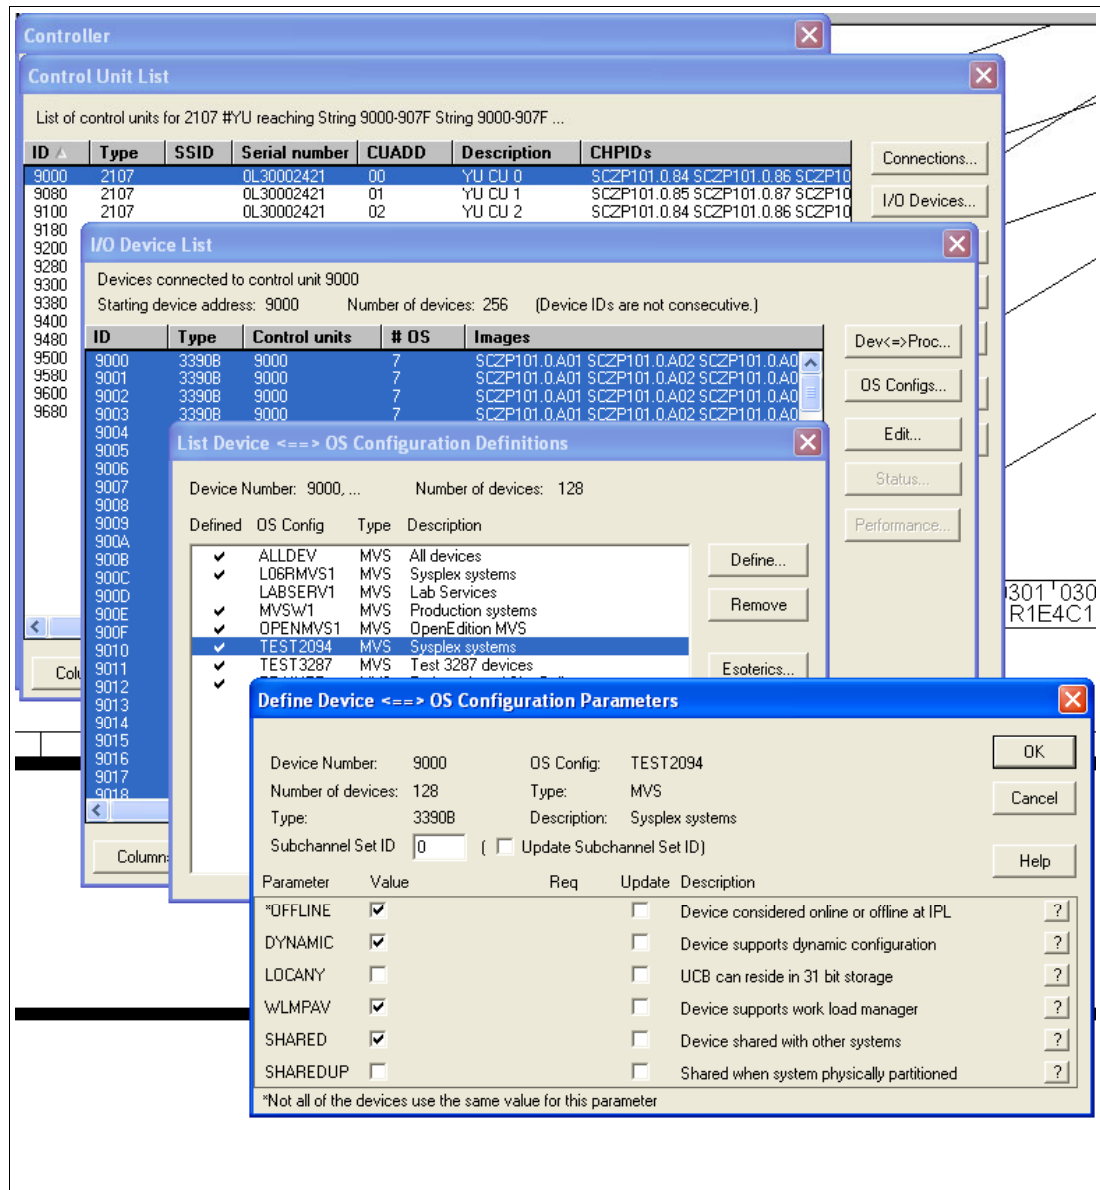

Figure 5-18 HCM OS Configuration Parameters
15. Highlight TEST2094, and then click **Define**. Refer to Figure 5-18.